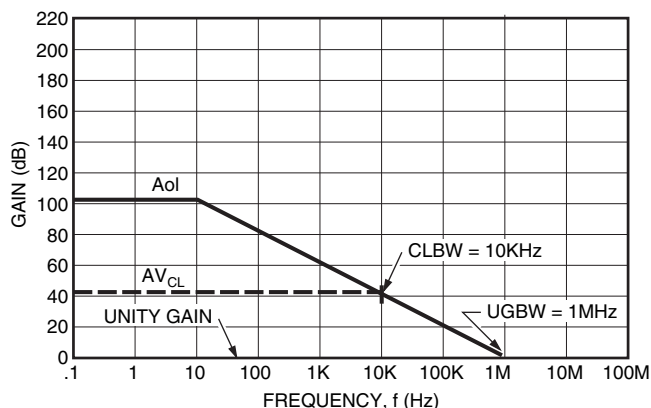

FIGURE 1. DEFINITION OF CLBW & UGBW
- 1) What is the frequency of oscillation? (refer to Figure 1 for definitions of UGBW (Unity Gain Bandwidth) and CLBW (Closed Loop Bandwidth) to be used throughout this text)